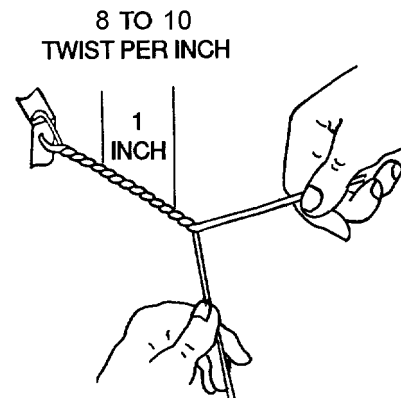

Figure 3. Wire Twisting by Hand
g. Lockwire shall be twisted in a clockwise direction, with approximately 8 to 10 twists per inch (Figure 3).
c. Lockwire is twisted 8 to 10 twists per inch (Figure 3).